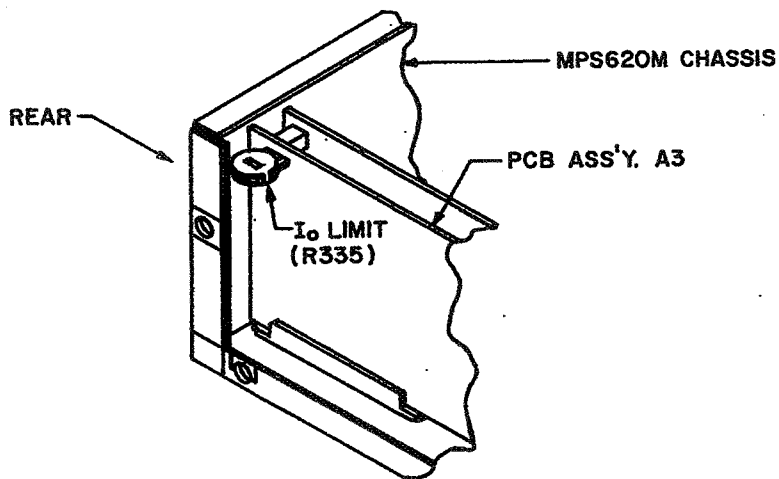

FIG. 2-3 LOCATION OF THE INTERNAL CURRENT LIMIT ADJUSTMENT FOR THE (±) 20V, 1A SUPPLY
c) INTERNAL CONTROL: See FIG. 2-3.